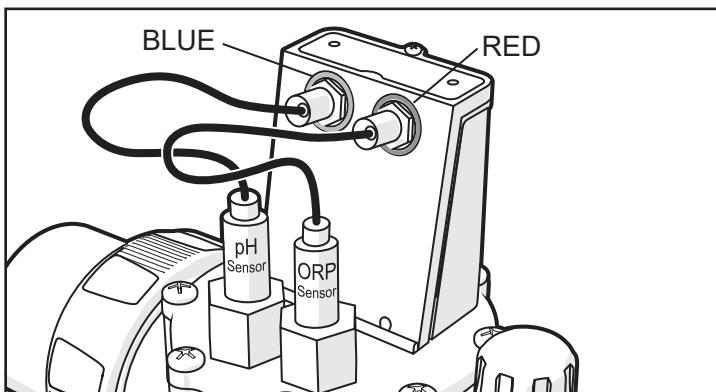

Figure 4. Connect Sensor Wires
10. Connect the Blue pH sensor BNC connector to the BLUE labeled left side connector of the electronic circuit board. See Figure 4.
11. Connect the red ORP sensor BNC connector to the RED labeled right side connector of the electronic circuit board. See Figure 4.